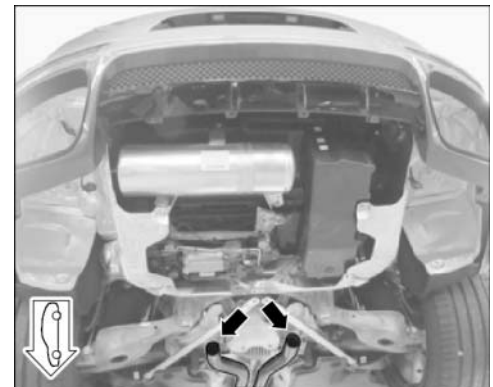

Figure 7
- 1.4.8 De-burr cut on inside and outside of front silencer (⇒ *Figure 7 -Arrows-*).